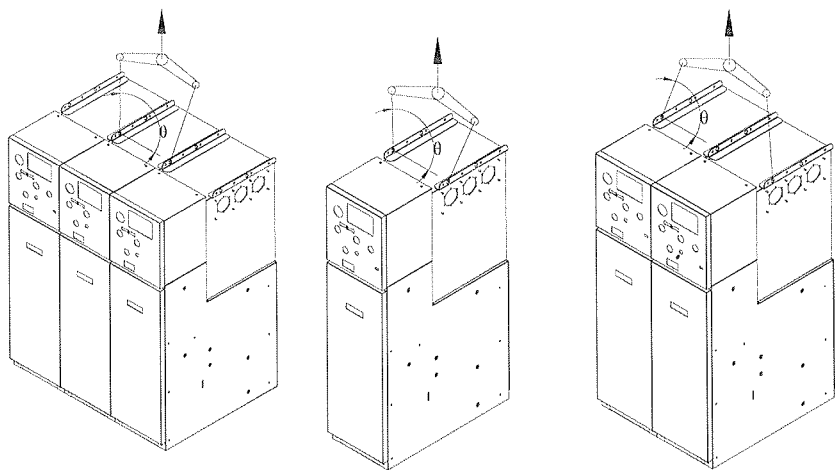

Figure 1/1: Handling by crane
- Maintain an angle of at $60^{\circ} \leq \theta \leq 110^{\circ}$ from the front for the ropes leading to the crane hook (Figure 1/1)